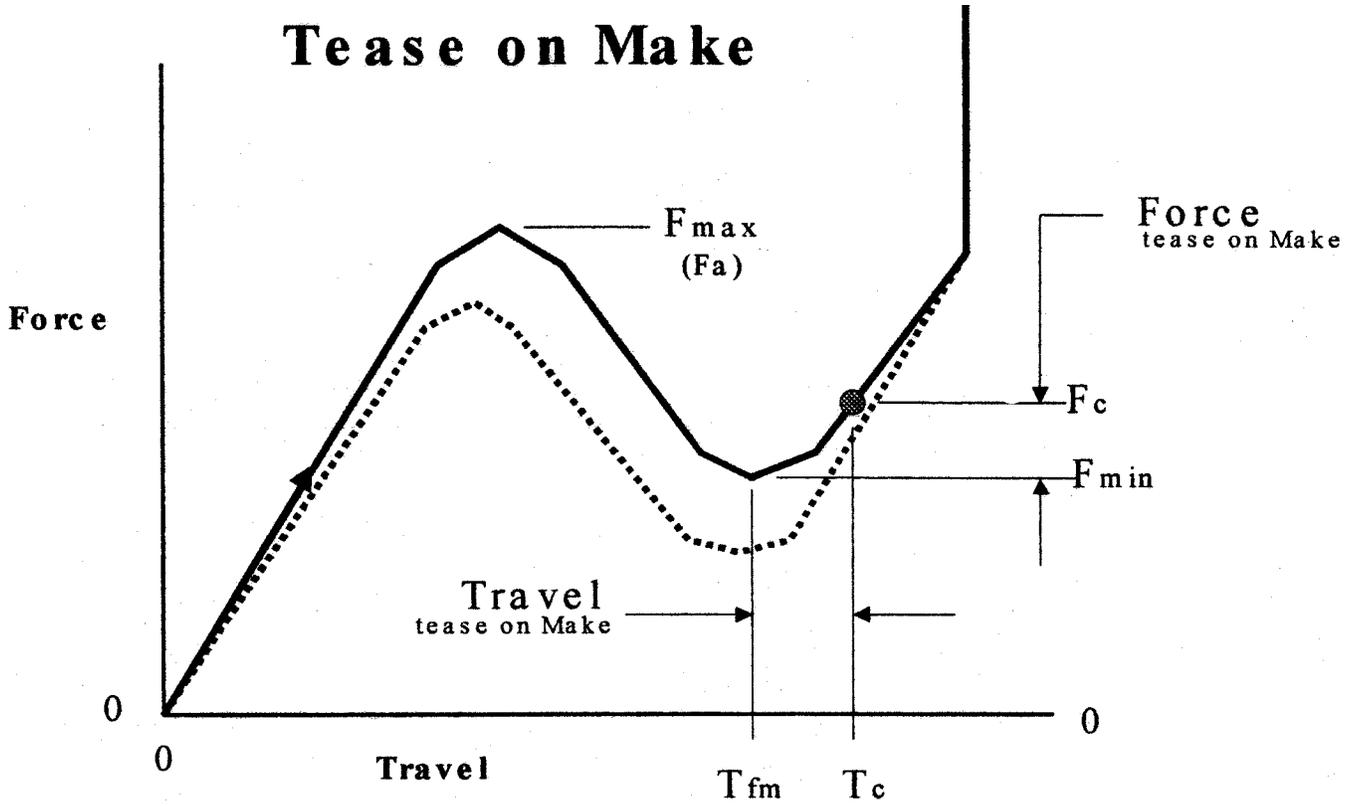

FIG. 1 Tease on Make
3.1 *Definitions:* Refer to Figs. 1 and 2 for the following terms.